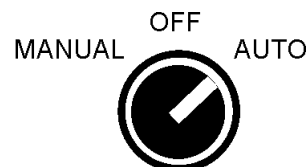

**Figure 18. Control Box Power ON Indicator**
3. Verify that the **ON** indicator (Figure 18) on the control box is LIT. This means that power is being supplied to the control box.